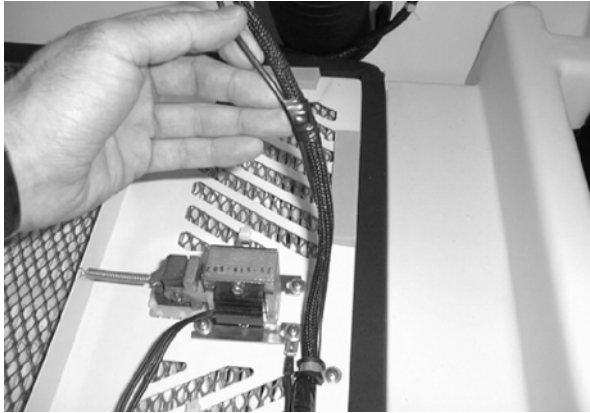

FIG. 8
13. Use electrical tape or wire ties to secure the jumper harness to the filter shaker harness. (Fig. 8)